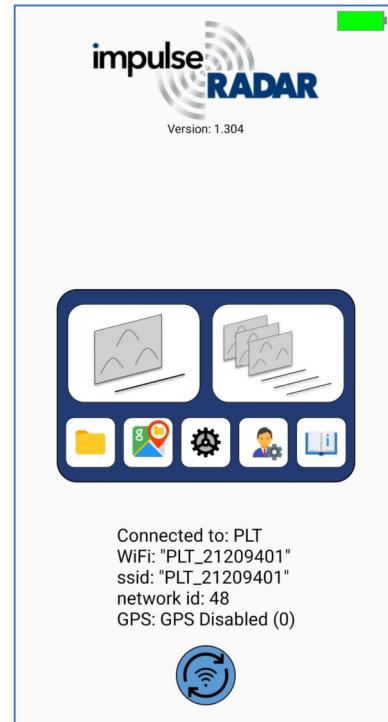

Figure 3: ViewPoint main screen when connected to the GPR system
6. Upon successful connection, the app will show connected antenna information and the GPR battery status will be displayed as shown in the Figure 3.